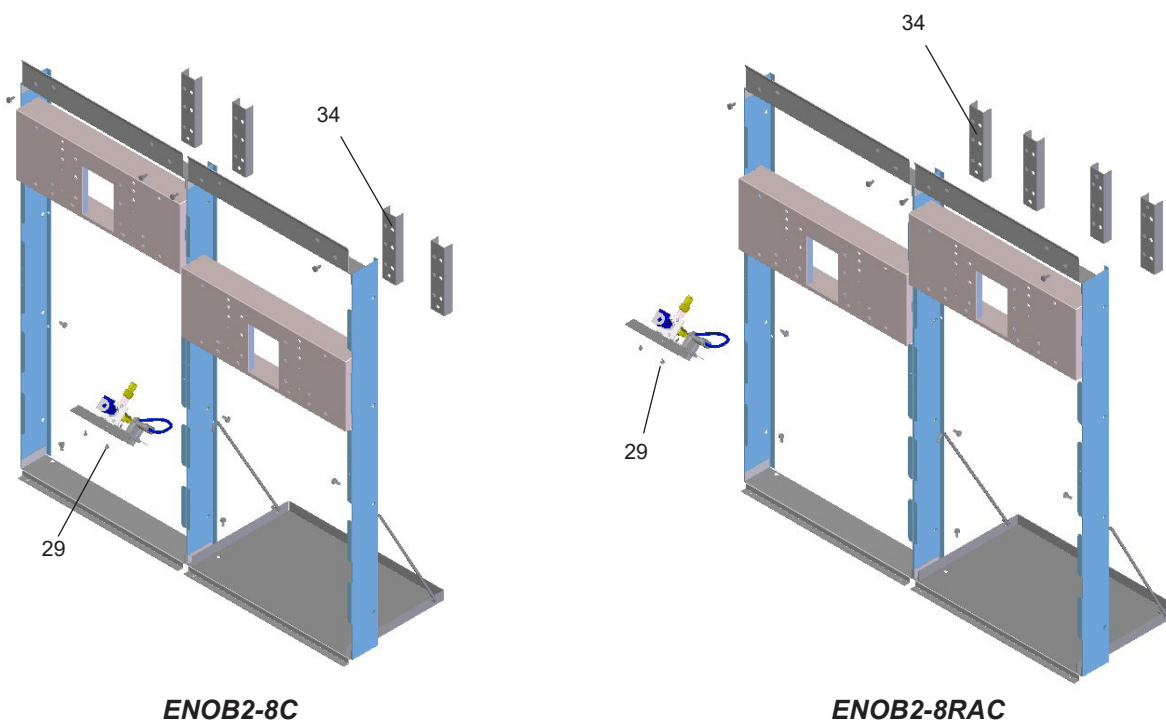

Figure 7 - Solenoid Assembly
- 2. Attach solenoid valve assembly to the underside of cross member of mounting frame on electronic sensor unit.** (See Fig. 7).